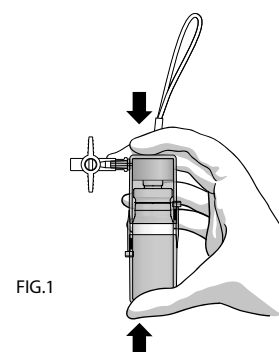

FIG.1
**Press the two half-shells of the canister** (fig.1) **so that they engage with each other.**